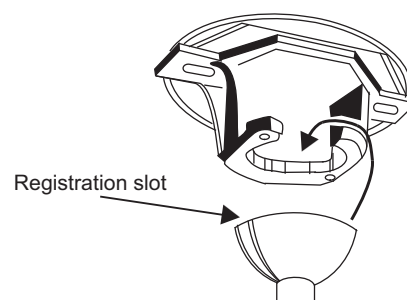

Figure 8
Step 9. Place the downrod ball into the hanger bracket socket. (Fig. 8)